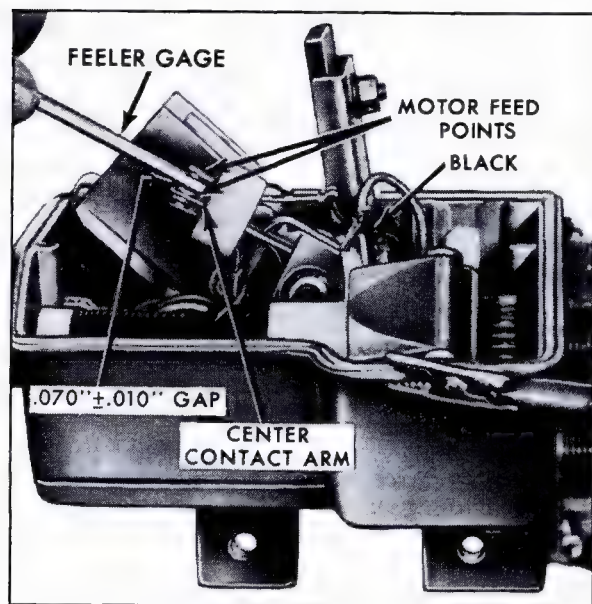

Fig. 15-14 Motor Feed Points Adjustment (Full Gap)
5. Measure gap between either motor feed point and center contact arm. This gap should be  $.070'' \pm .010''$ , Fig. 15-14. Bend either motor feed point to adjust and recheck gap.